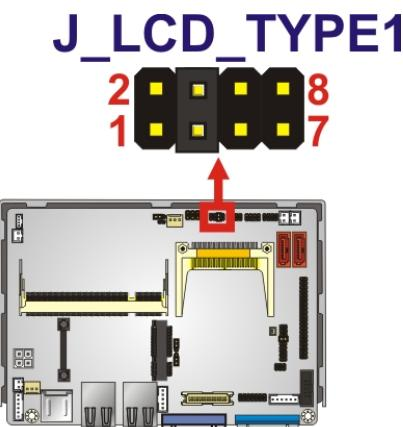

Figure 4-6: LVDS Resolution Selection Jumper Location
**Jumper Location:** See **Figure 4-6**